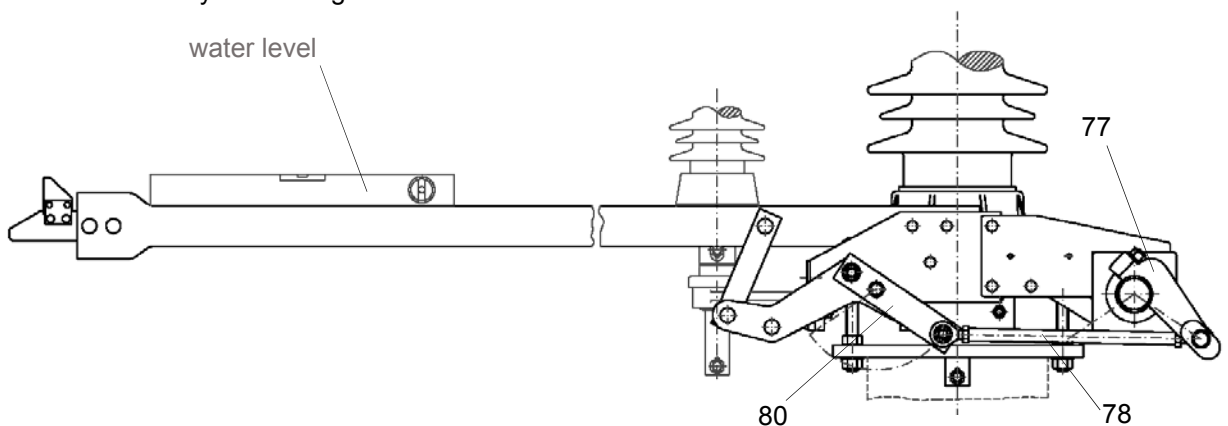

Figure 14 Regulation of earthing switch blade
- 7.6.3 While closing the earthing switch manually, make sure the male contact of the earthing blade reaches the female contact of the earth receiving contact in the middle. If necessary adjust the position of the earthing switch by using the M16 fixing bolts. After adjustment tighten the bolts. (Figure 14). Additional adjustment is also possible by releasing the M16 fixing bolts of the receive contact and slightly rotating the earth receive contact. After adjustment tighten the bolts.